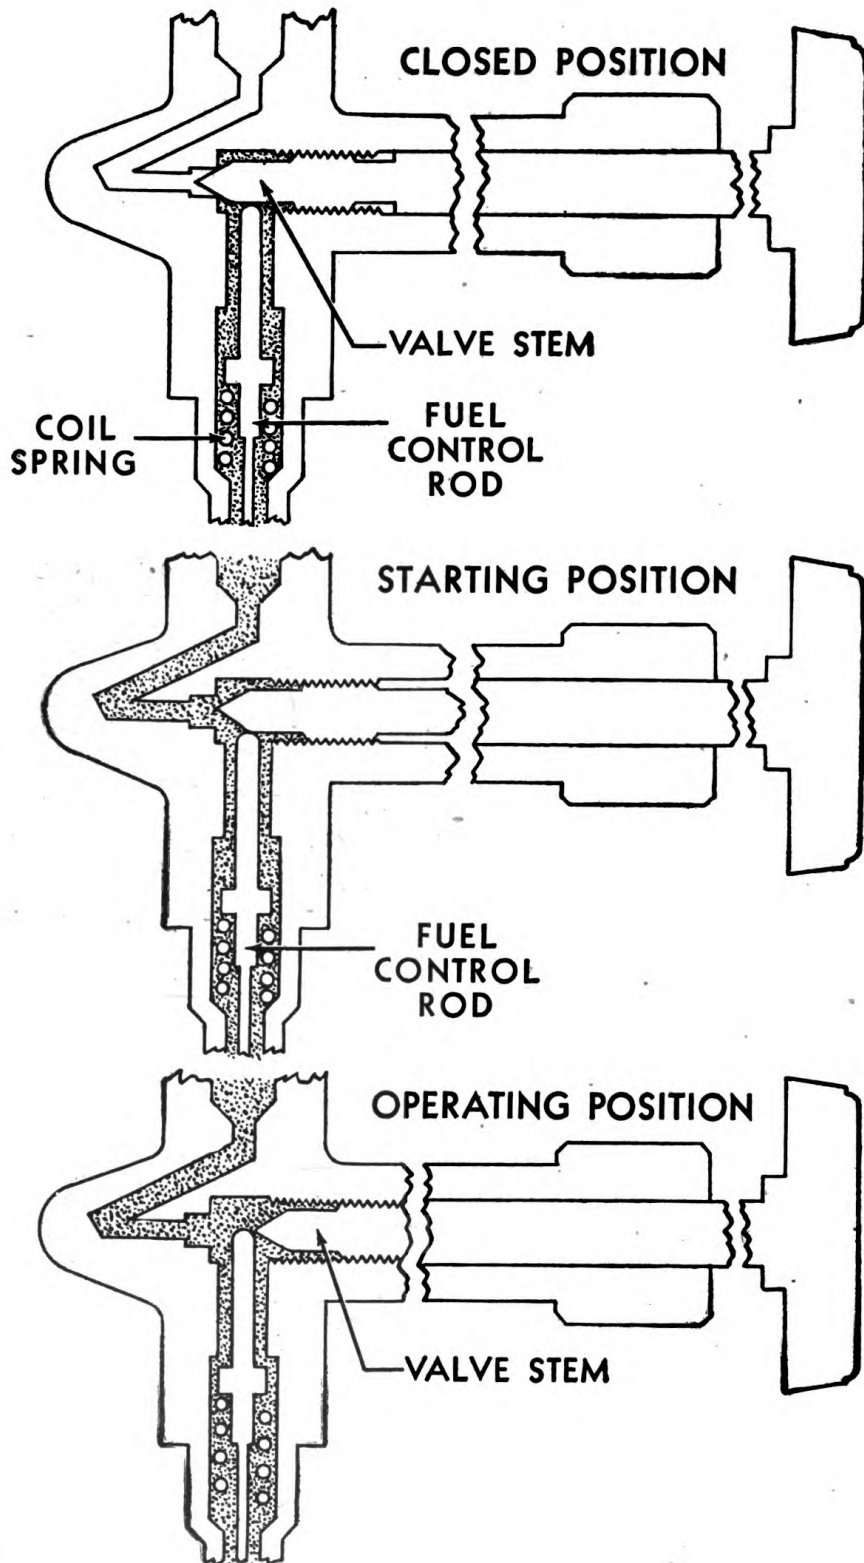
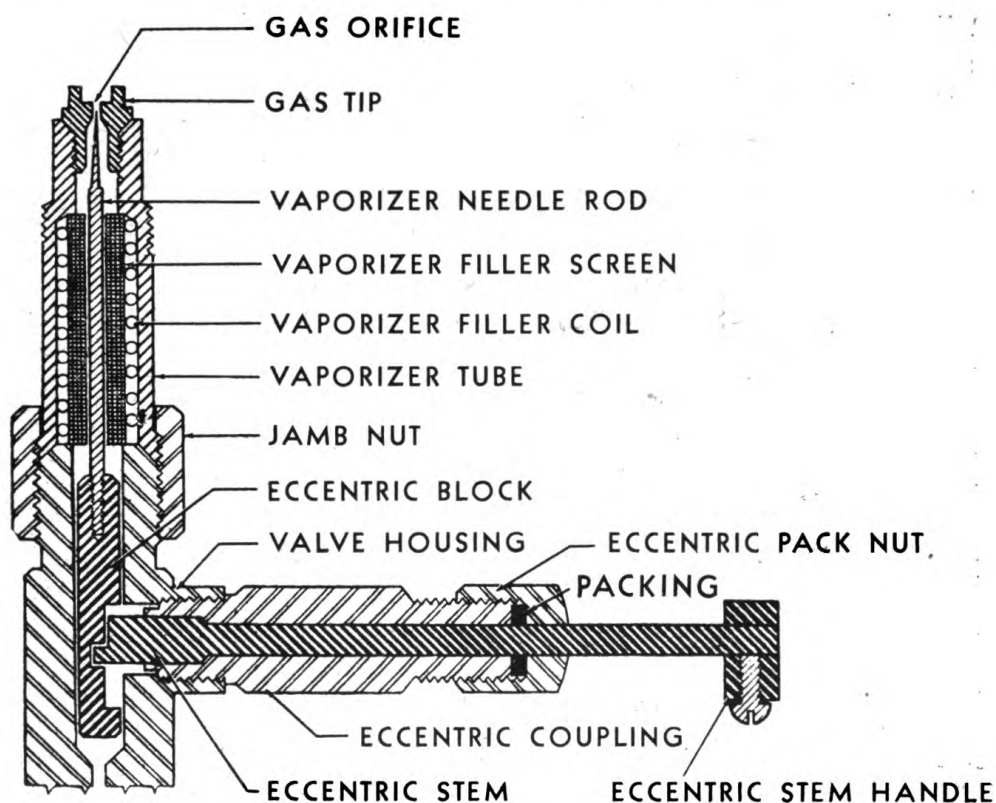

Figure 11. Cross section of fuel control valve.
Figure 13. Cross section of vaporizer and eccentric.
a. STARTING POSITION (figs. 11 and 12①).
b. OPERATING POSITION (figs. 11 and 12②). After the stove or burner has reached complete generation, which is usually within the first 5 or 6 minutes, the fuel control valve may be opened as far as possible. This withdraws the fuel control rod from the fuel orifice and allows a full flow of fuel. Since the size of the fuel orifice is greater than that of the gas orifice in the vaporizer (fig. 13), the fuel is forced into the space between the outer and inner tubes. This stops the flow of air from above the liquid fuel in the tank through the air port, and causes the fuel to be fed directly to the vaporizer.